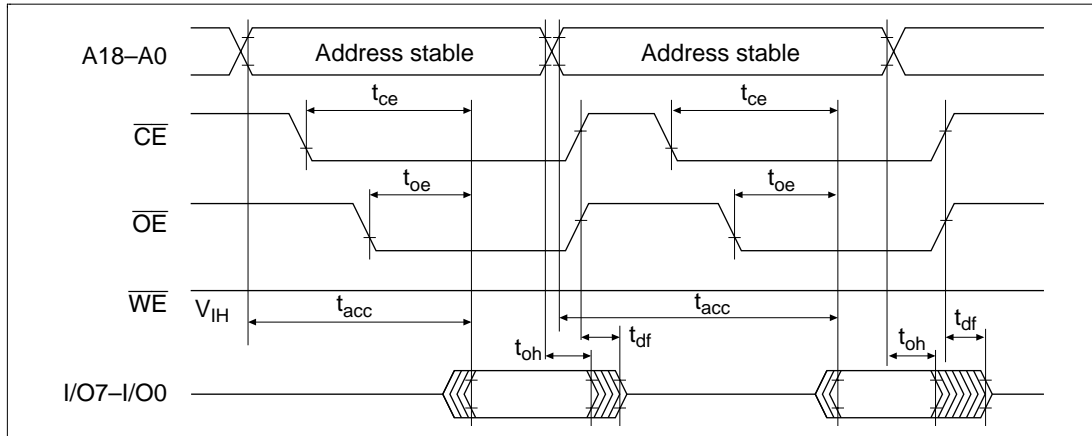

Figure 19-21 \overline{CE} and \overline{OE} Clock System Read Timing Waveforms
4. Memory address transfer is performed in the second cycle (figure 19-21). Do not perform transfer after the third cycle.